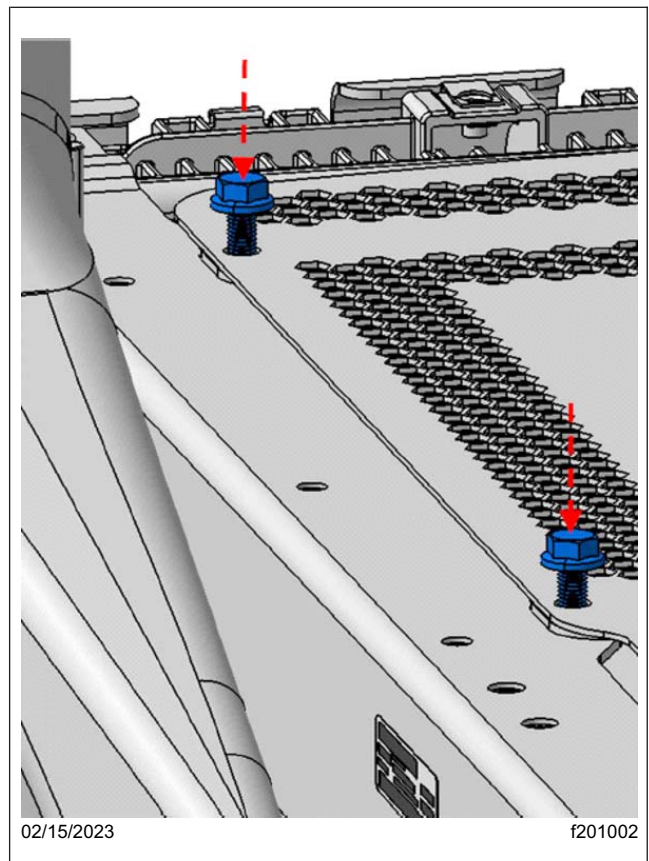

Fig. 13, M8 Flange Bolt Installation
- 15.2 Tighten the M8 hex flange bolts 13 ± 1.5 lbf·ft (18 ± 2 N·m). See Fig. 13.